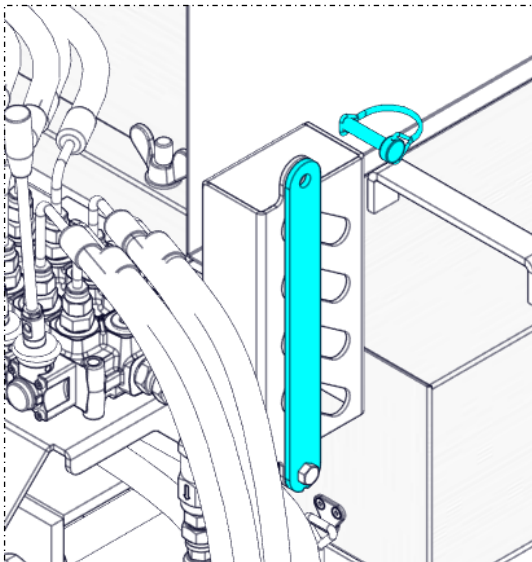

Figure 4.25
A) Open the quick pin that is holding the lock plate and the front panel of the hose hanger (Figure 4.25).